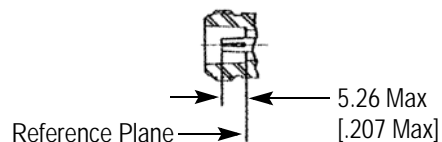

Figure 7
5. These procedures should yield the tolerances in Figure 7.